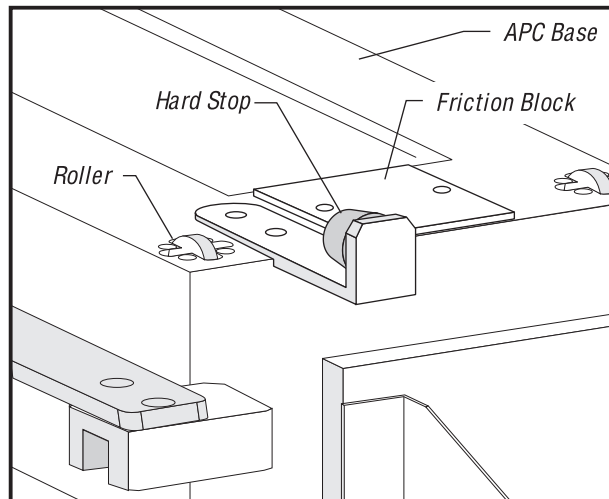

Figure 11.27 View of APC base showing friction block and hard stop.
19. Pull the pallets onto the friction blocks and against the hard stop (see Figure 11.27). Rotate the chain slightly, using the chain position adjustment tool, to allow each drive leg pawl to clear the chain drive roller.